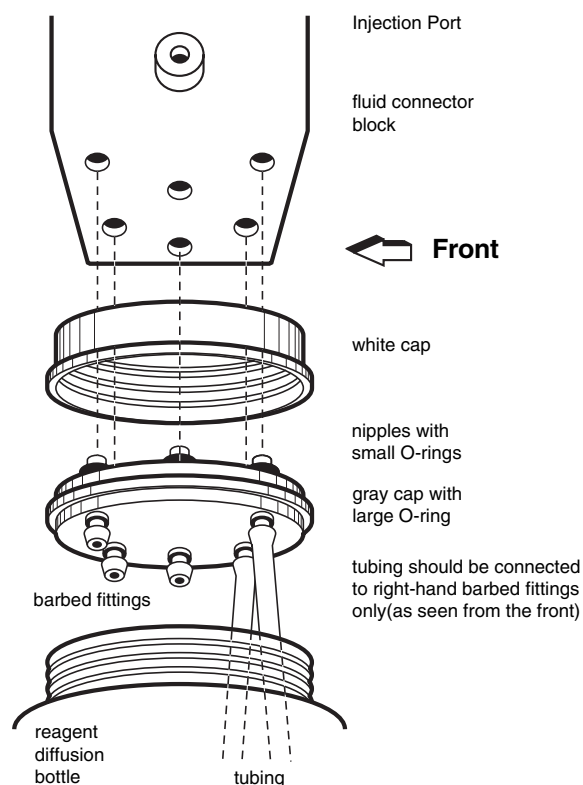

Figure 7:
3. Connect diffusion tubing (use Orion 181060 ONLY) to tubing connector assembly to conform to **Figure 7**. Place the tubing assembly and cap into the bottle.
5. Insert the five nipples on the top of the reagent diffusion bottle into the fluid connector block, as shown in **Figure 7**.